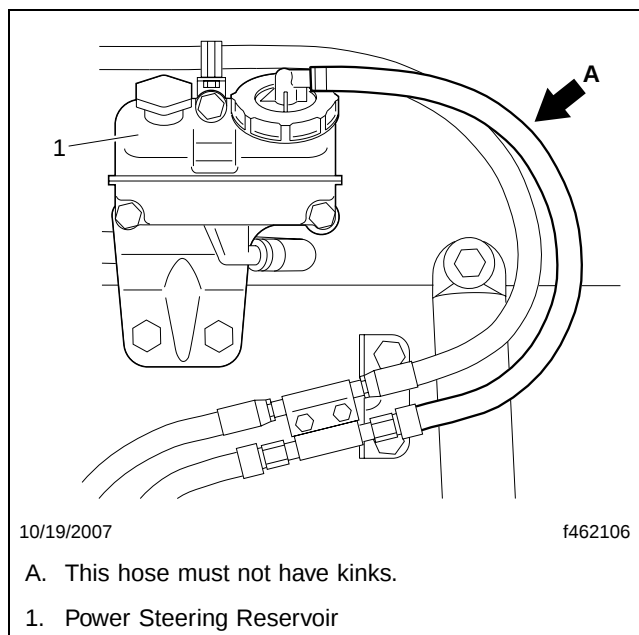

Fig. 9, Hose Routing From Power Steering Reservoir
46. Connect the return hose between the reservoir and formed line. The hose should have no necking or kinks that may impede the return fluid flow. See **Fig. 9**.